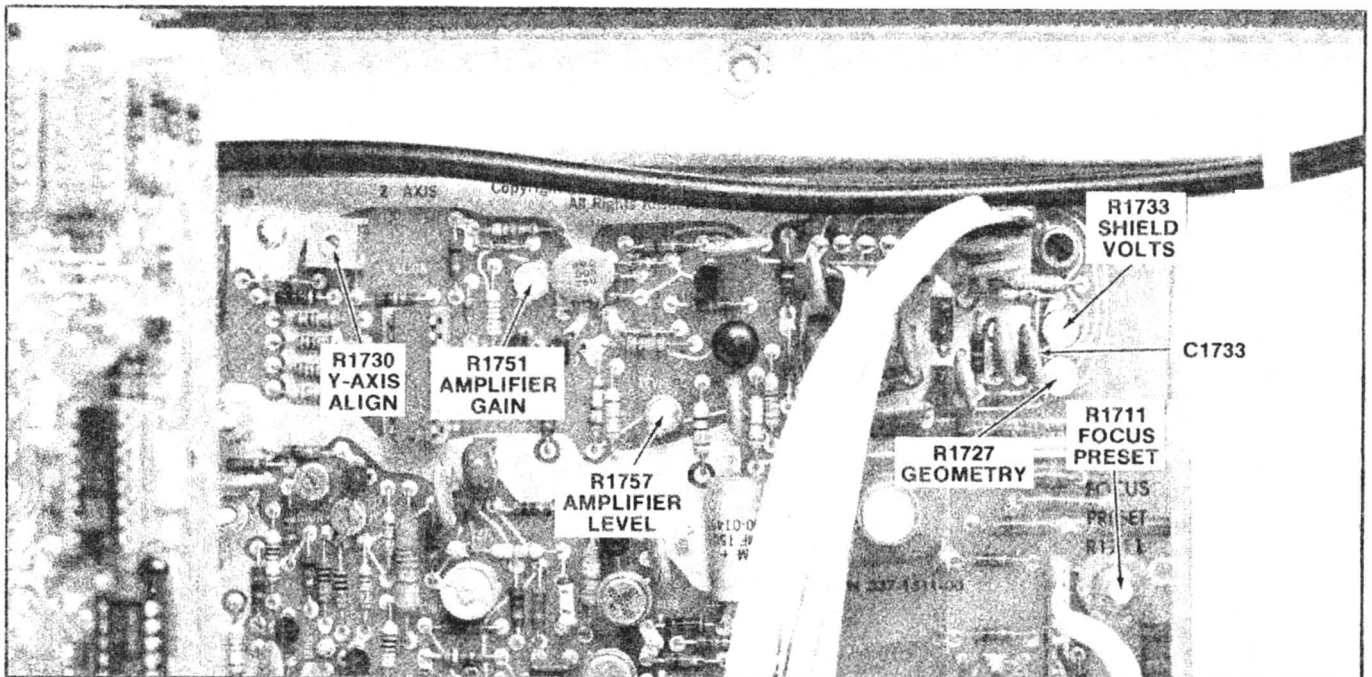

Fig. 5-3. Location of crt display adjustments and test points.
b. Connect the dc voltmeter (vom) between the lower lead of C1733, on the Z-Axis circuit board, and chassis ground. See Fig. 5-3 for test point location.
d. Adjust—Shield Volts, R1733, for a meter reading of +34.5 volts. See Fig. 5-3 for adjustment location.
h. Adjust—front-panel TRACE ROTATION adjustment (horizontal alignment) and Y-Axis Align, R1730, (vertical alignment), so the traces align with the vertical and horizontal center lines. See Fig. 5-3 for adjustment location.
d. Adjust—Geometry, R1727, for minimum bowing of vertical and horizontal traces when positioned to top and bottom graticule lines. See Fig. 5-3 for adjustment location.
f. Adjust—Focus Preset, R1711, and front-panel ASTIG adjustment for the best overall resolution of the traces. See Fig. 5-3 for adjustment location.
h. Adjust—Focus Amplifier Gain, R1751, for a well-defined, high intensity display. See Fig. 5-3 for adjustment location.